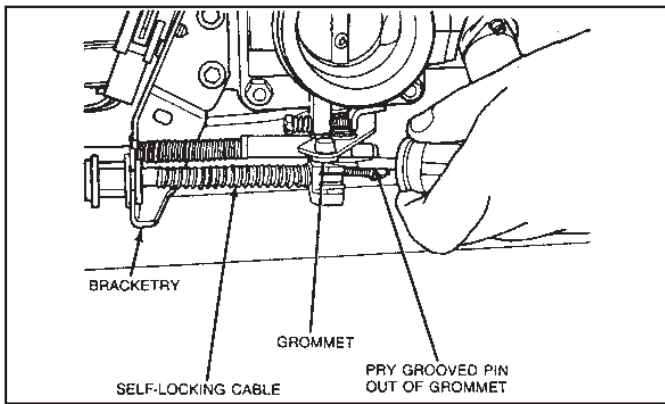

Figure 20
6.2 Using a wide-blade screwdriver, pry grooved pin on cable assembly out of grommet on throttle body lever. (See Fig. 20.)